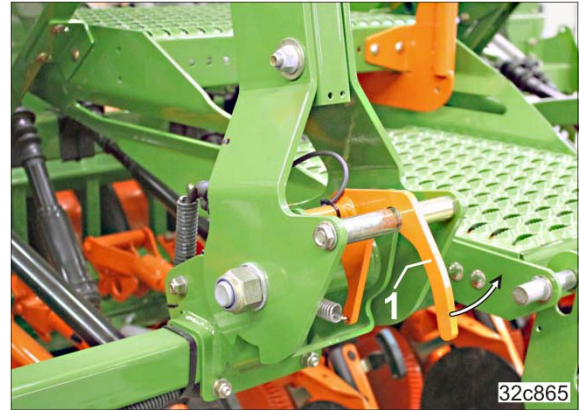

Fig. 167
The lever (Fig. 167/1) locks the raised pulse wheel in the transport position.
2. Pull up the lever (Fig. 167/1).